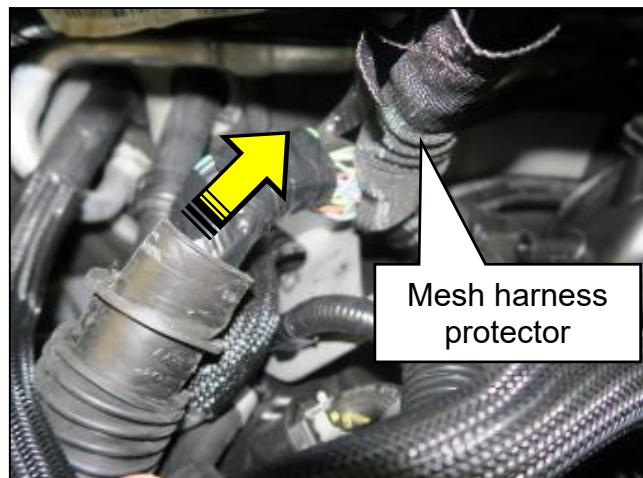

Figure 14
13. To expose the harness, carefully move the mesh harness protector toward the back of the engine, as shown in Figure 14.